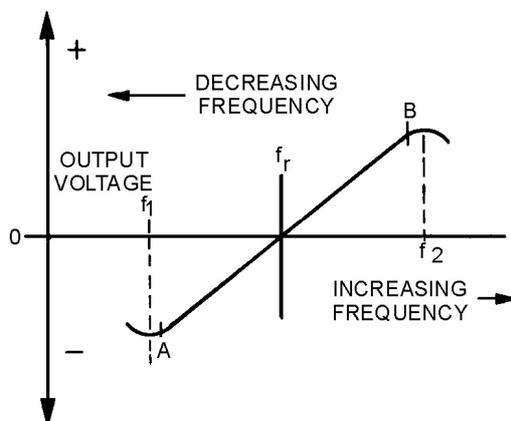

Figure 3-10.—Discriminator response curve.
The FOSTER-SEELEY DISCRIMINATOR is also known as the PHASE-SHIFT DISCRIMINATOR. It uses a double-tuned rf transformer to convert frequency variations in the received fm signal to amplitude variations. These amplitude variations are then rectified and filtered to provide a dc output voltage. This voltage varies in both amplitude and polarity as the input signal varies in frequency. A typical discriminator response curve is shown in figure 3-10. The output voltage is 0 when the input frequency is equal to the carrier frequency ( $f_r$ ). When the input frequency rises above the center frequency, the output increases in the positive direction. When the input frequency drops below the center frequency, the output increases in the negative direction.
These voltage outputs can be plotted to show the response curve of the discriminator discussed earlier (figure 3-10). When weak AM signals (too small in amplitude to reach the circuit limiting level) pass through the limiter stages, they can appear in the output. These unwanted amplitude variations will cause primary voltage  $e_p$  [view (A) of figure 3-11] to fluctuate with the modulation and to induce a similar voltage in the secondary of T1. Since the diodes are connected as half-wave rectifiers, these small AM signals will be detected as they would be in a diode detector and will appear in the output. This unwanted AM interference is cancelled out in the ratio detector (to be studied next in this chapter) and is the main disadvantage of the Foster-Seeley circuit.